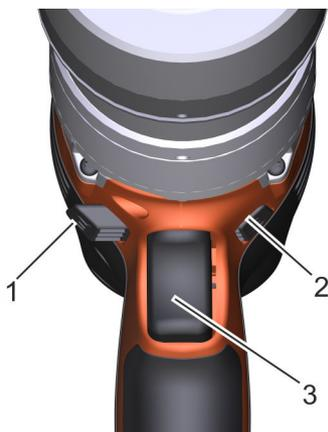

Fig. 22: Direction of rotation
To tighten in clockwise direction (CW), push the direction of rotation setting (Fig. 22/1) to the right.
To loosen in counterclockwise direction (CCW), push the direction of rotation setting (Fig. 22/2) to the left.
Press and hold the trigger (Fig. 22/3) until the bolting process has concluded and an acoustic signal sounds. Do not pulse (press and release the trigger in quick succession).